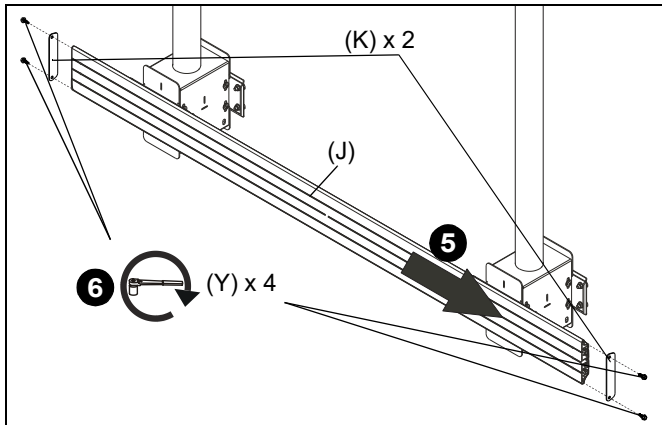

Figure 5
- Slide 2 x 1 rail (J) onto second assembly (K) attached to column. (See Figure 5)
- Use four 1/4 x 3/4" hex flange bolts (Y) to secure two side covers (K) to ends of rail (J). (See Figure 5)